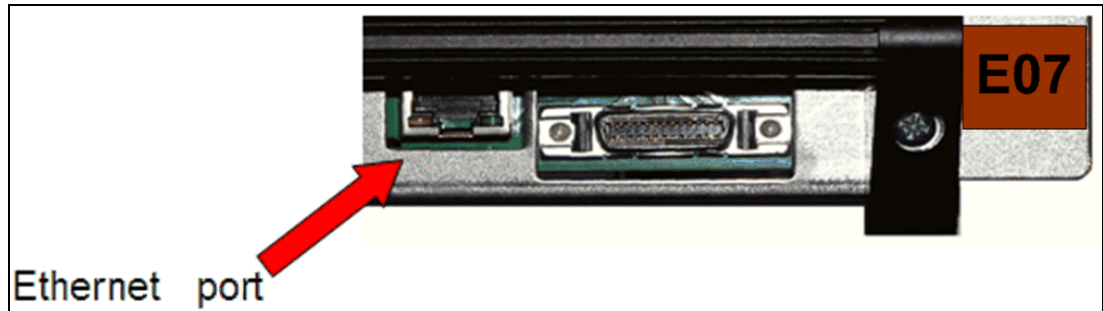

Figure 3-22 TS1140 Ethernet port
The Ethernet port is used in the TS1140 Rack mount configuration when in a TS3500 tape library configuration the TS3500 tape library management interface (MI) can be used to manage the TS1140 instead. Figure 3-22 on page 190 shows the location of the Ethernet port.
The 3592-E07 canister no longer has an RS-232 serial port. An Ethernet service port was added to the drive, which is for service, and use by the user. It provides the capability for users to access advanced drive status pages and for service personnel to access a drive virtual operator panel and perform firmware uploads and download drive memory dumps. It is a single, standard RJ45 connector at the rear of the canister, as shown in Figure 3-22 on page 190.